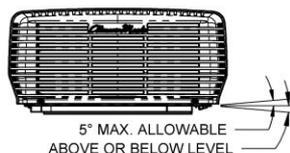

Figure 3
3. The Heat Pump must be mounted as near level front to rear and side to side as possible when the vehicle is parked level. Figure 3 shows the maximum allowable degree deviations mounting degrees from total surface flat plane).
- a. On the Roof - Position the Heat Pump basepan gasket over the square cutout in the roof. Figure 3
Refer to **OEM Ducting Requirements** for proper duct sizing. The OEM ducting requirement document is available at [www.AIRXCEL.com](http://www.AIRXCEL.com). The rooftop unit must be mounted as near to level from front to rear and side to side as possible. See Figure 3 for maximum allowable degree deviations.